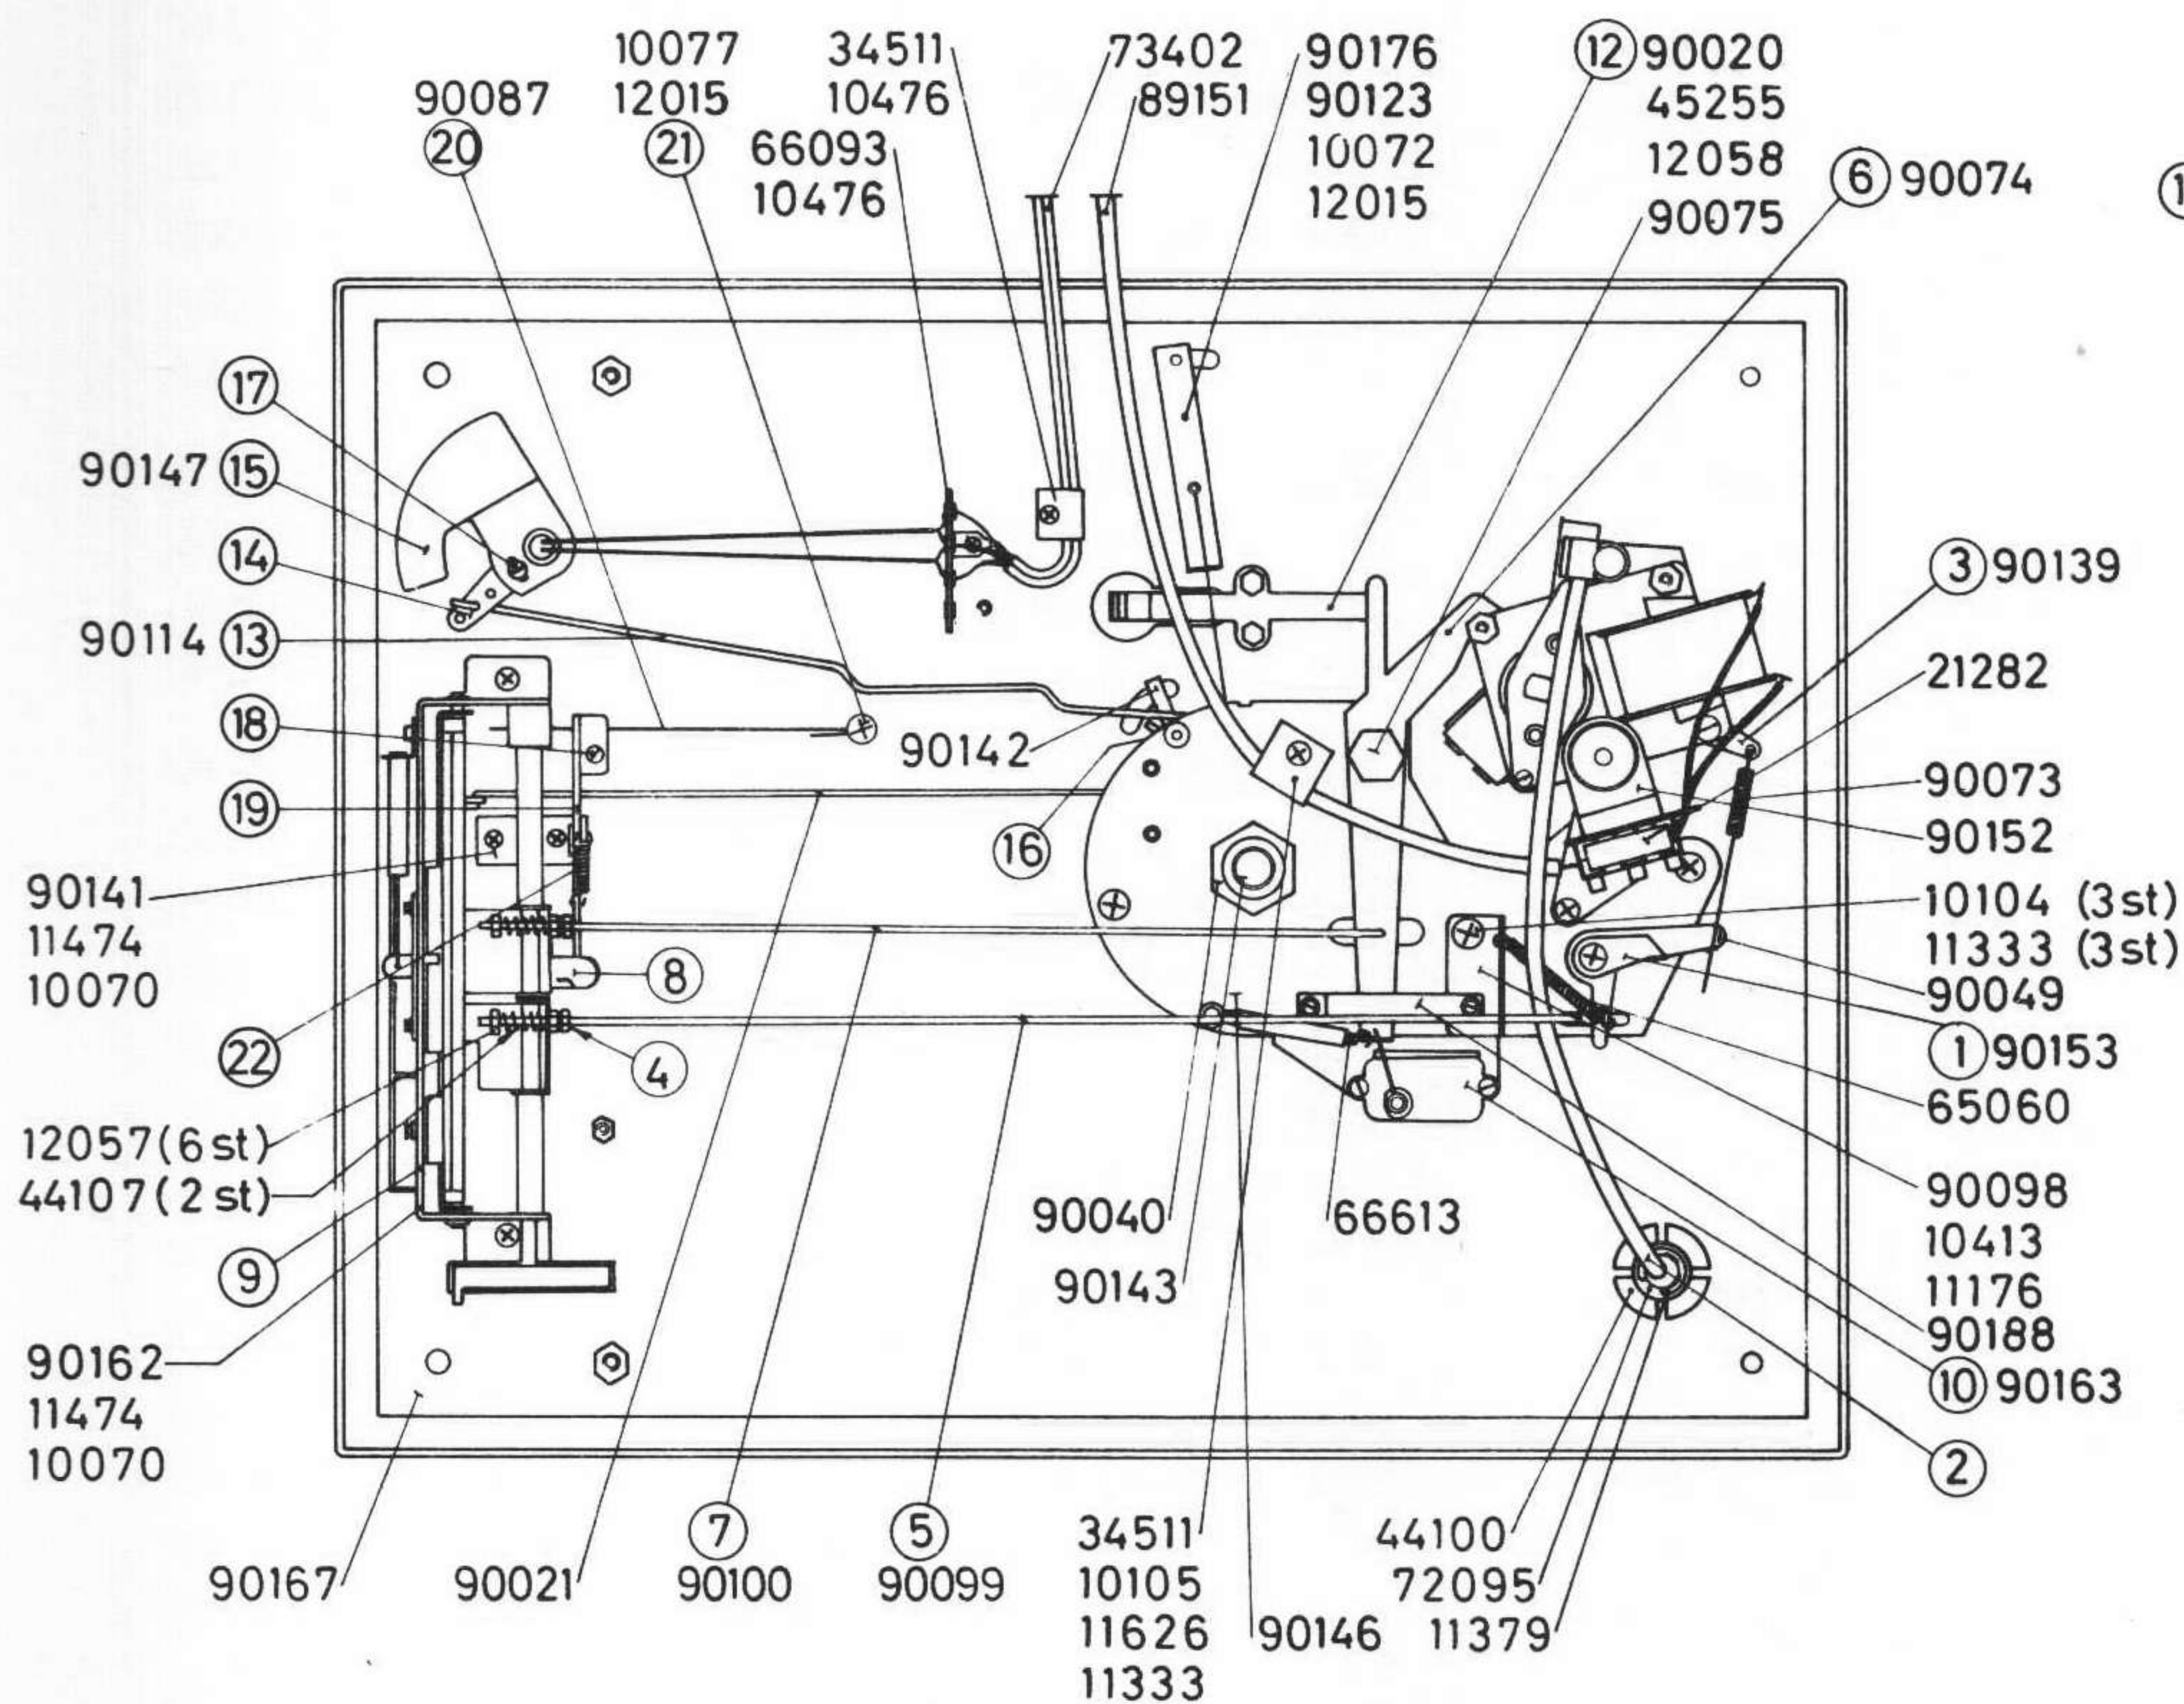
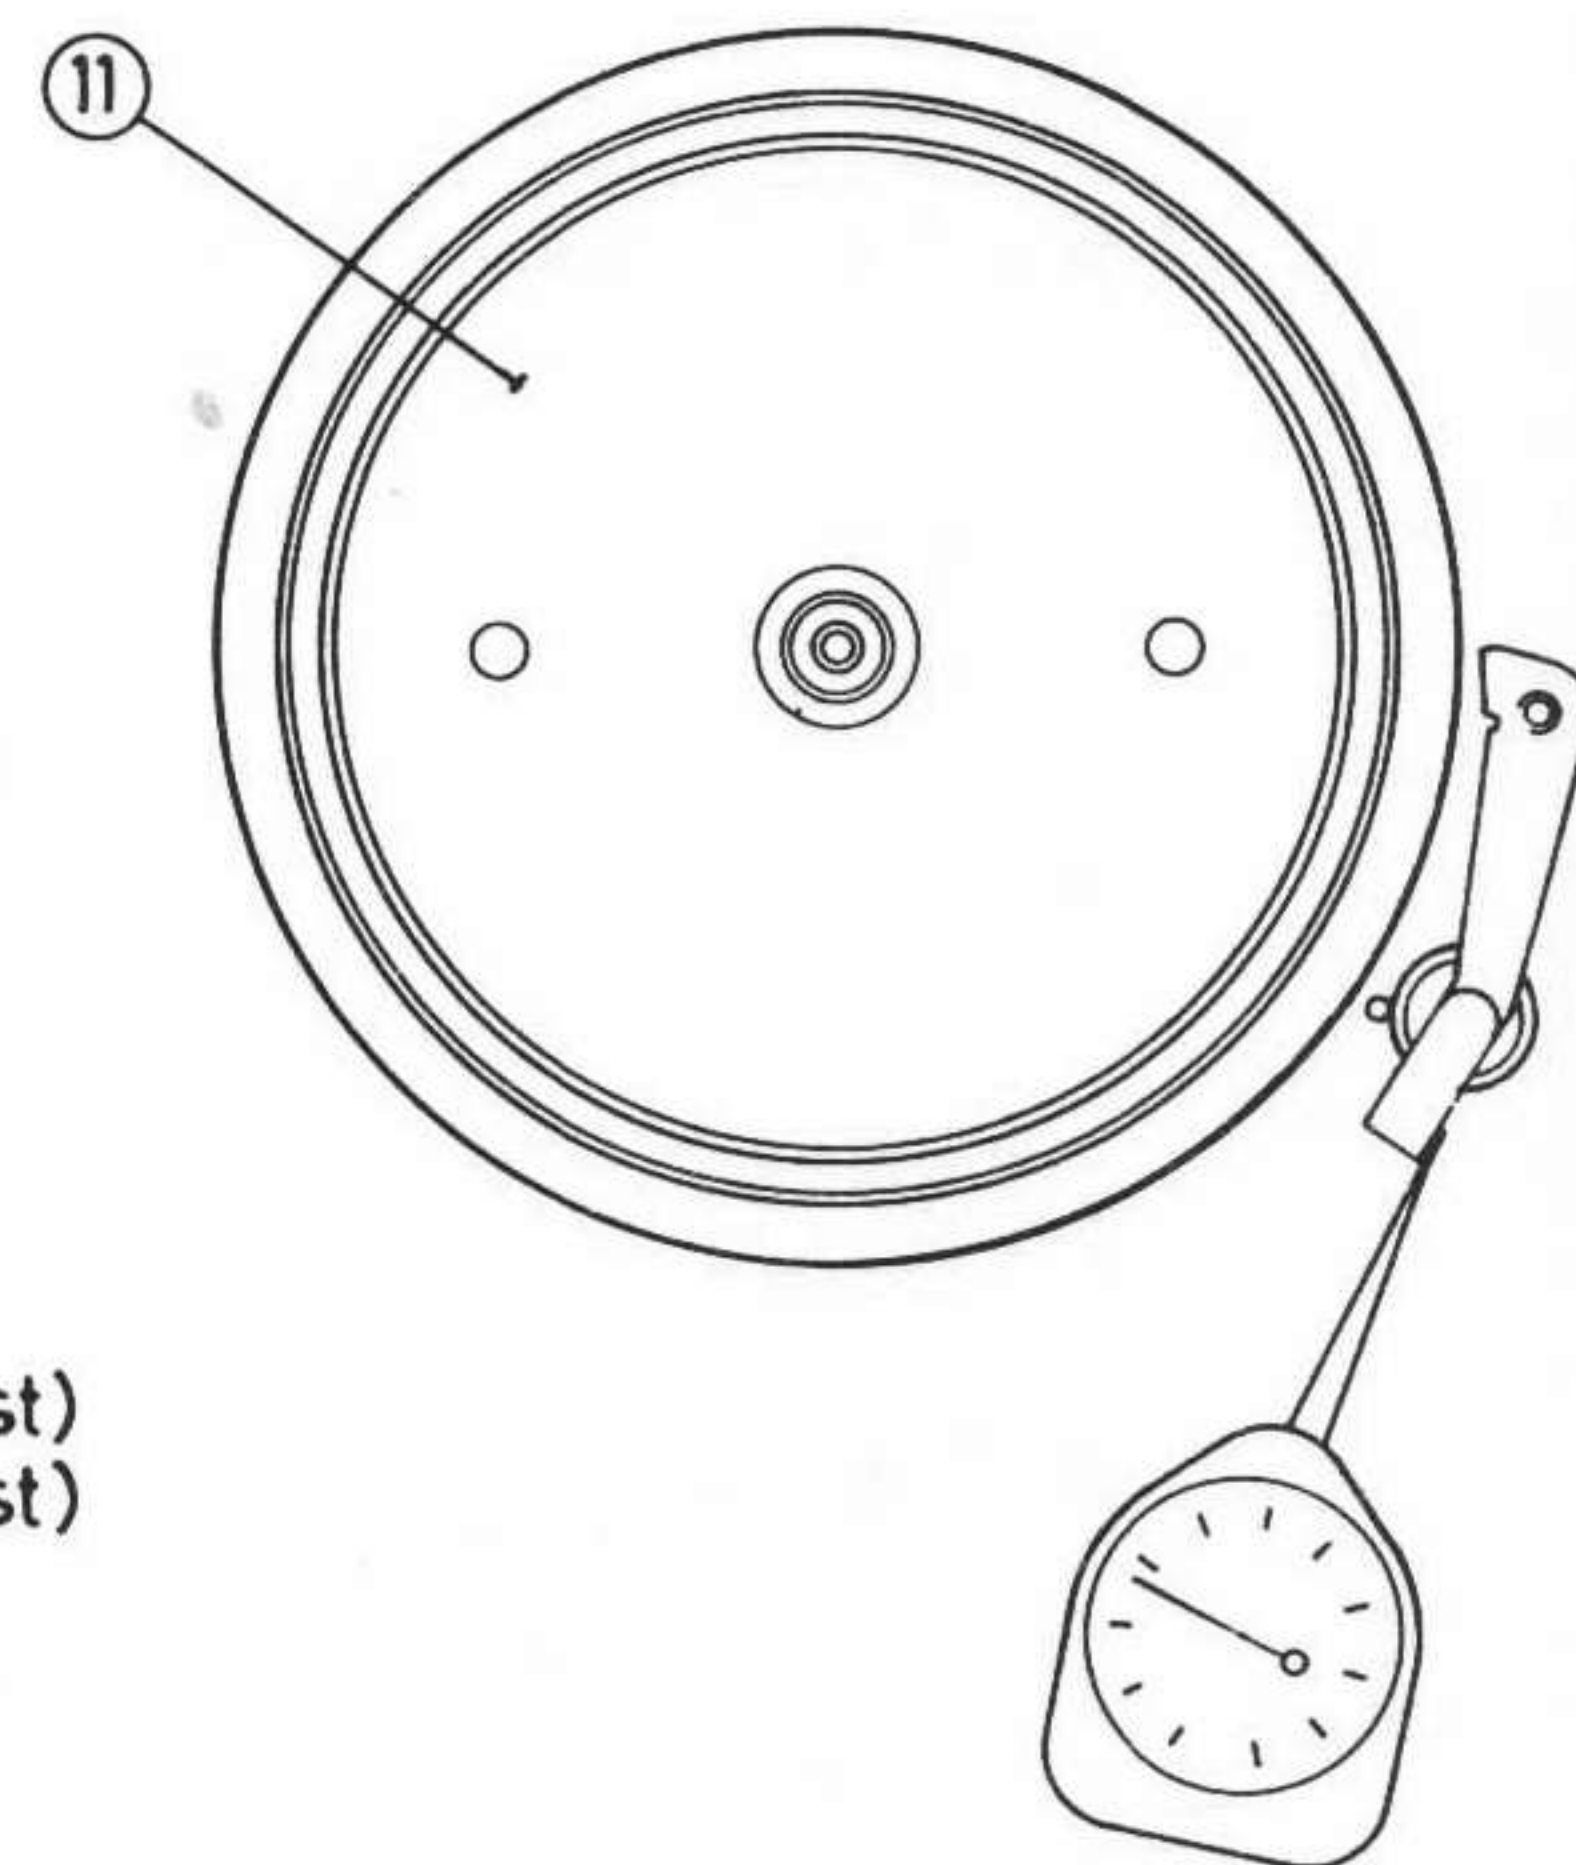

Fig. 1
Fig. 2
TRYCK NED KNAPPEN FÖR 33 1/3 V/MIN OCH JUSTERA ANSLAGSPLÅTEN (1) FIG. 1, SÅ ATT EN KRAFT AV 75 - 80 POND ERHÅLLES, DÅ EN MÄTKLOCKA ANSÄTTES ENL FIG (2). REGLERA MOTORNS HASTIGHET MED HASTIGHETSREGLAGET (2) ENL FIG (1) EFTER APPARATENS STROBOSKOPSKIVA, SÅ ATT HASTIGHETEN BLIR SÅ EXAKT SOM MÖJLIGT, DVS STROBOSKOPBILDEN STÅR STILLA.
OM FJÄDERKRAFTEN MÅSTE ÄNDRAS AVSEVÄRT, KAN DET VARA LÄMPLIGT ATT VRIDA FJÄDERFÄSTET (3) FIG 1 OCH HÄRIGENOM ERHÅLLA GROVJUSTERING.
ÄNDRING AV BROMSKRAFTEN MOT SKIVTALLRIKEN (11) FIG 2 GÖRES MED MUTTRARNA FÖR BROMSPLÅT (12) FIG 1. SPELAREN KÖRES PÅ 45 V/MIN. BROMSKRAFTEN ANPASSAS SÅ ATT SKIVTALLRIKEN ROTERAR CA 3/4 VARV SEDAN STOPPKNAPPEN NEDTRYCKTS. EFTER INSTÄLLNINGEN LÅSES MUTTRARNA MED LÅSLACK.